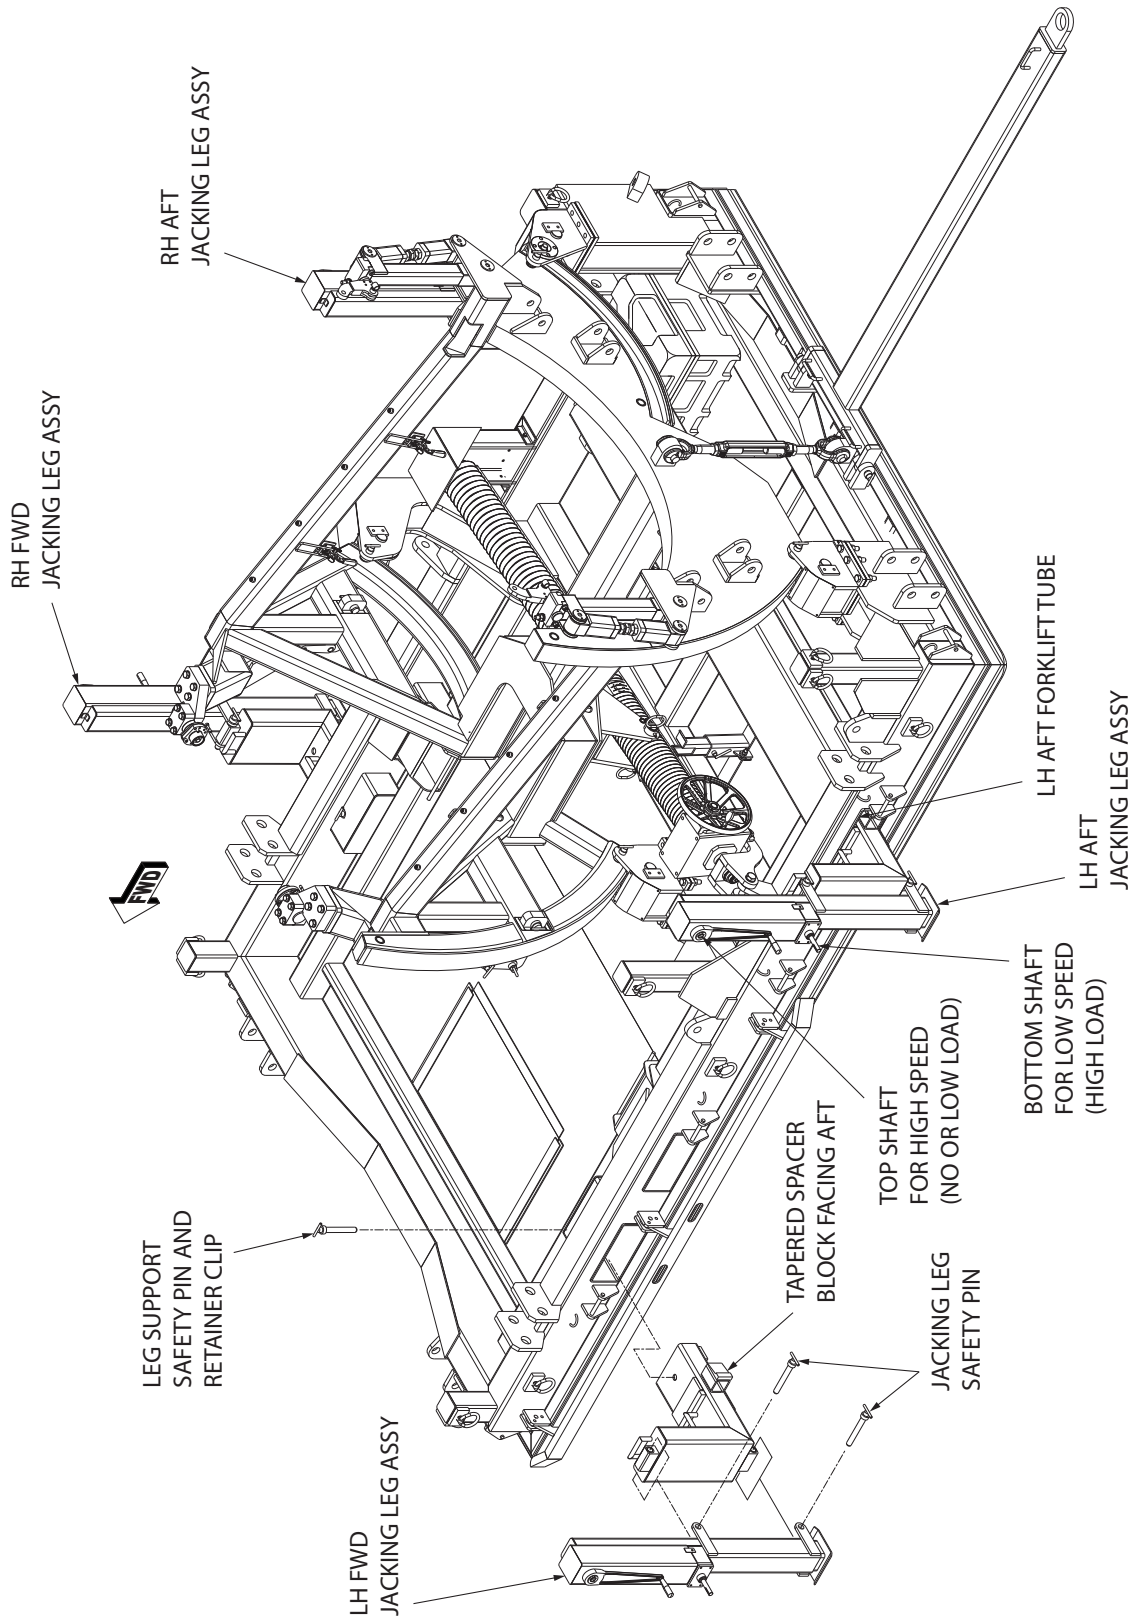

Figure 5.6.2-1 Jacking Leg Installation
5.6.2 Jacking Legs Usage and Operation (If No Sling or Forklift Available) (Figure 5.6.2-1)